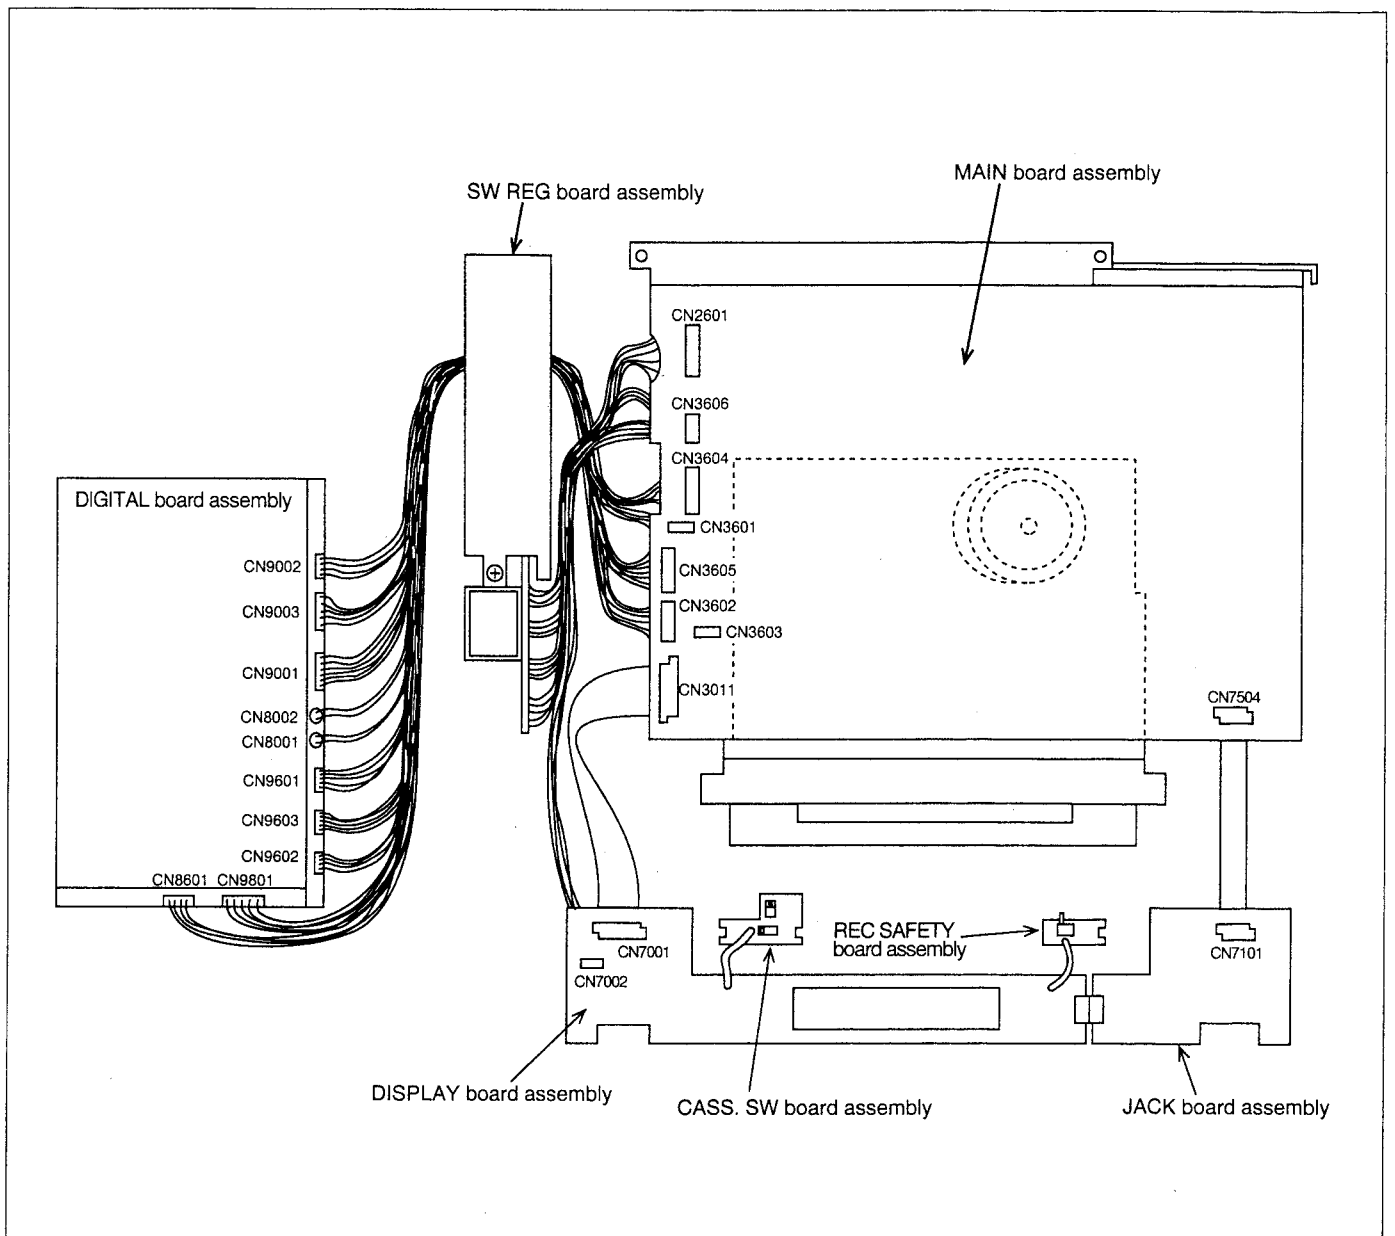

Fig. 1-4-3
- (10) Connect the wires which were removed at the steps (1) to (5).
- (11) Carry out diagnosis and repair as necessary as shown in Fig.1-4-3.